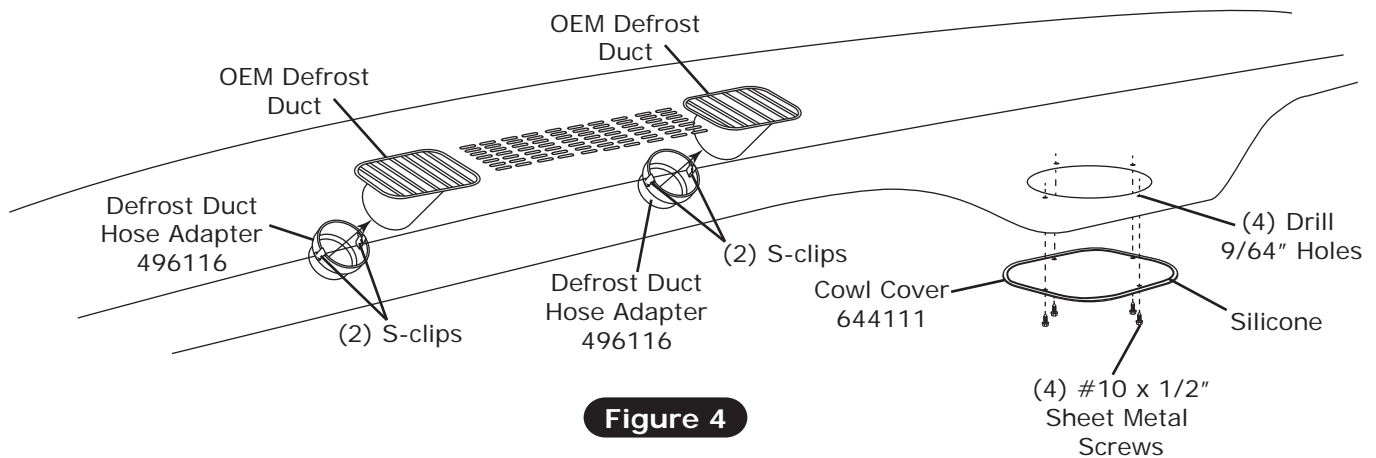

Figure 4
1. Install (2) S-clips onto defrost duct hose adapters (See Figure 4, below).
2. Install defrost duct hose adapters onto OEM driver and passenger side defrost ducts as shown in Figure 4, below.
3. Hold cowl cover under dash and mark the (4) mounting holes.
4. Drill (4) 9/64" mounting holes under dash.
5. Apply a 1/4" bead of silicone around the back side of the cowl cover as shown in Figure 4, below.
6. Secure cowl cover to fresh air hole using (4) #10 x 1/2" sheet metal screws as shown in Figure 4, below.